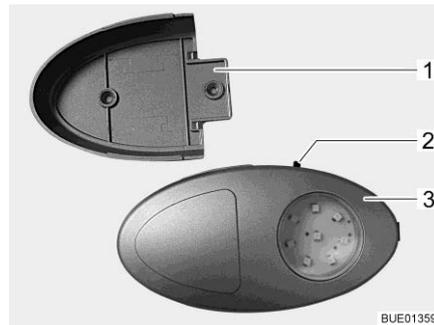

Fig. 50 Wardrobe light/torch
- ▷ The wardrobe light can be removed from its holder (Fig. 50,1) and used as a torch.
The On/Off switch (Fig. 50,2) is located directly on the wardrobe light (Fig. 50,3).